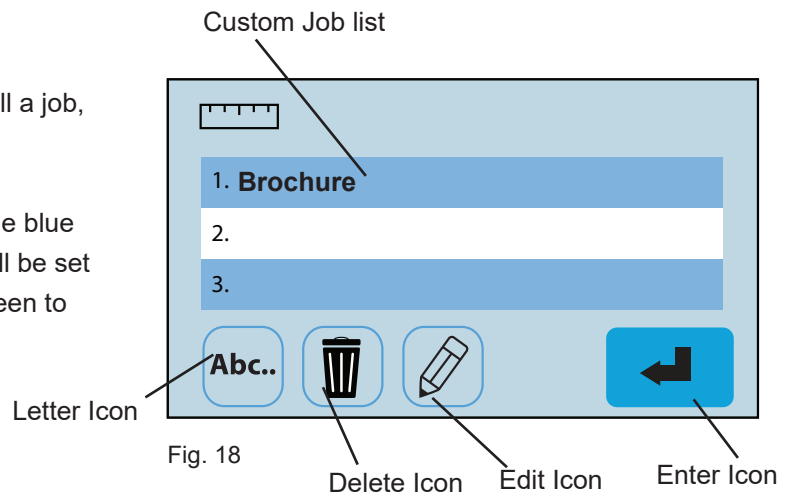
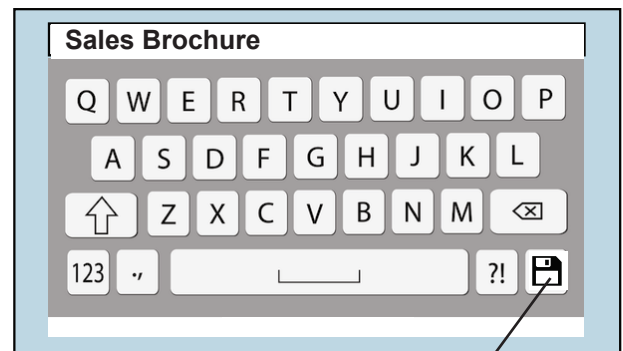
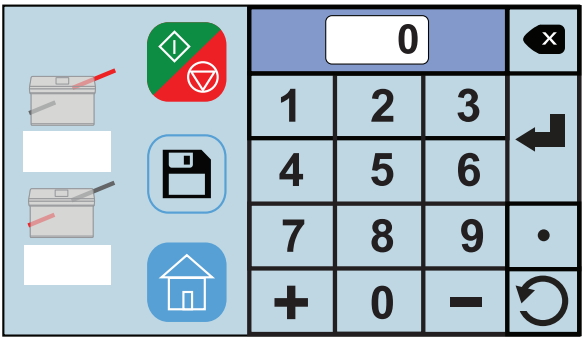

Fig. 18
Fig. 19
Fig. 21
To recall, select the job from the list and press the blue enter button  (Fig. 18). The fold tables will be set and the control panel will return to the home screen to start processing the job.
3. To rename a job, select the job from the list and press the letter icon  (Fig. 18). Use the keypad to change the name and press the save icon in the lower right corner (Fig. 19).
5. To edit a previously saved job, select the job from the list and press the edit icon  (Fig. 18). From the fold setup screen use the same process as setting a custom fold (page 9) to edit the job settings (Fig. 21). See page 10 for measuring guidelines.